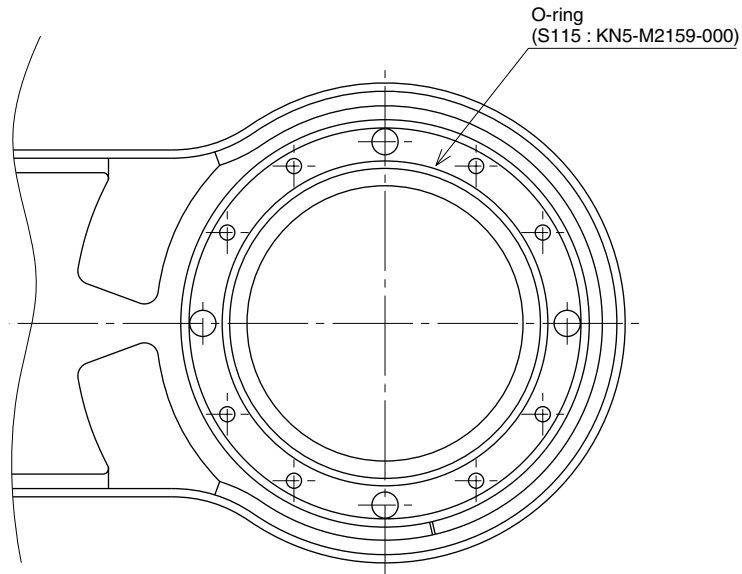

**Fig. 5-37**
- 10) Remove the X-axis arm installation bolts (M5×55L, 8 pieces). (See Fig. 5-37.)
- 16) Fit a new O-ring into the O-ring groove on the X-axis arm and secure it to the harmonic drive. Then apply small amounts of “Screw Lock” to the bolts (M5×55L, 8 pieces) you removed earlier and tighten them uniformly to secure the X-axis arm. (See Fig. 5-37 and Fig. 5-38.)